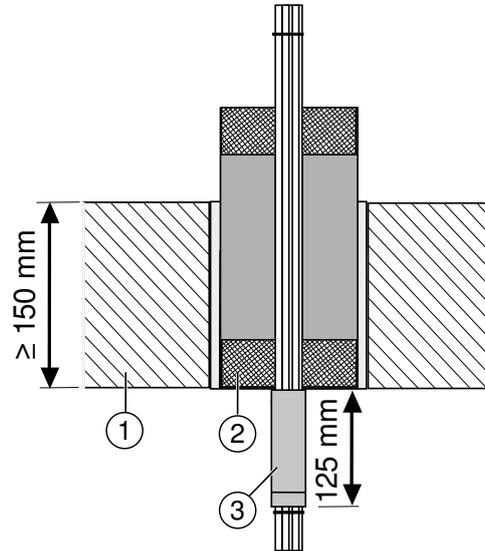

Figure 16: Fire protection bandage on cable bundles in ceilings
- ① Ceiling
- ② Pipe shell with soft foam plug
③ Fig. 16: Fire protection bandage FSB-WB 1.5 above and under ceiling